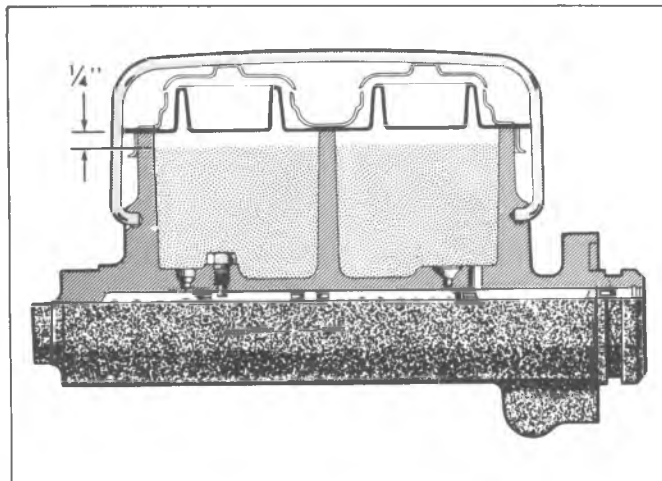

Fig. 30--Correct Fluid Level
11. Fill master cylinder reservoirs to within 1/4" of reservoir rims as shown in Figure 30.
7. Fill the master cylinder to the level shown in Figure 30.